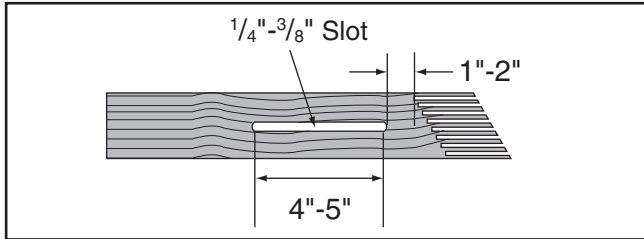

Figure 76. Slot routed in featherboard.
4. Rout a $\frac{1}{4}$ "– $\frac{3}{8}$ " wide slot 4"–5" long in workpiece and 1"–2" from short end of featherboard (see **Figure 76**).